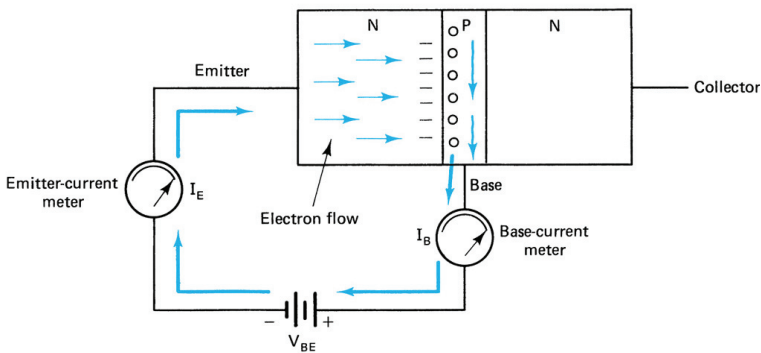

Figure 6.6 Emitter–base biasing.
Consider the biasing of the NPN transistor of **Figure 6.6**. In this diagram, an external voltage source has been applied only to the emitter–base regions of the transistor. In an actual circuit, this source is called the **emitter–base voltage**, or V_{BE} . Note that the polarity of V_{BE} causes the emitter–base junction to be **forward biased**. This condition forces **majority current carriers** together at the emitter–base junction. The resulting current flow in this case would be quite large. In our example, note that the same amount of current flows into the emitter and out of the base. **Emitter current** (I_E) and **base current** (I_B) are used to denote these values. Under normal circuit conditions, a V_{BE} source would not be used independently.
14. When the emitter–base junction of a bipolar transistor is biased as in **Figure 6.6**, the resulting I_E and I_B are _____.